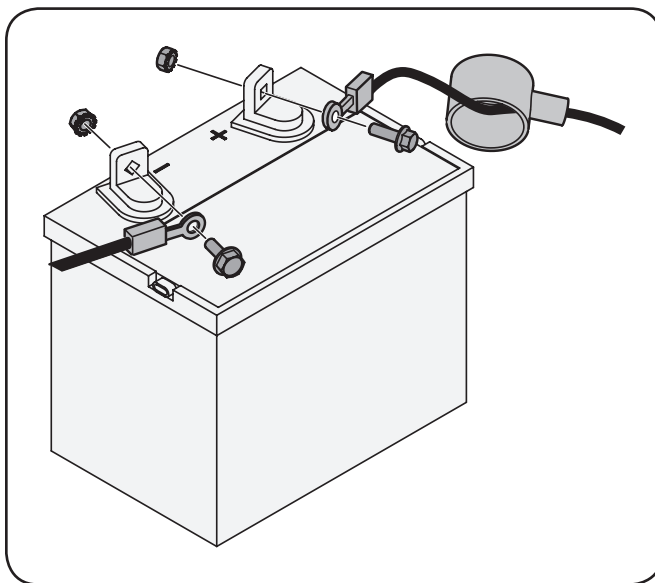

Figure 3-1
1. Remove the plastic cover, if present, from the positive battery terminal and attach the red cable to the positive battery terminal (+) with the bolt and hex nut. See Figure 3-1.
2. Remove the plastic cover, if present, from the negative battery terminal and attach the black cable to the negative battery terminal (-) with the bolt and hex nut. See Figure 3-1.